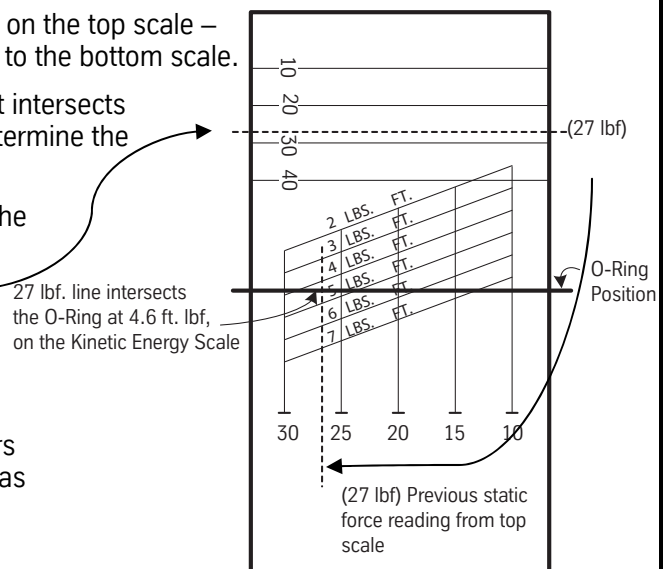

Figure 4: Force and Kinetic Energy Scale on TKE Door Gauge
- Note the horizontal line for a typical reading using the TKE Door Gauge. Record this torque value on the Maintenance Task Log. (See Figure 4)
- (1) Using the value in Step 1.e. (the value noted on the top scale – horizontal line in Figure 4) transfer this value to the bottom scale.
- (2) Follow this vertical line up (dotted line) until it intersects with the O-ring position from Step 2.e. to determine the kinetic energy. (See Figure 4)